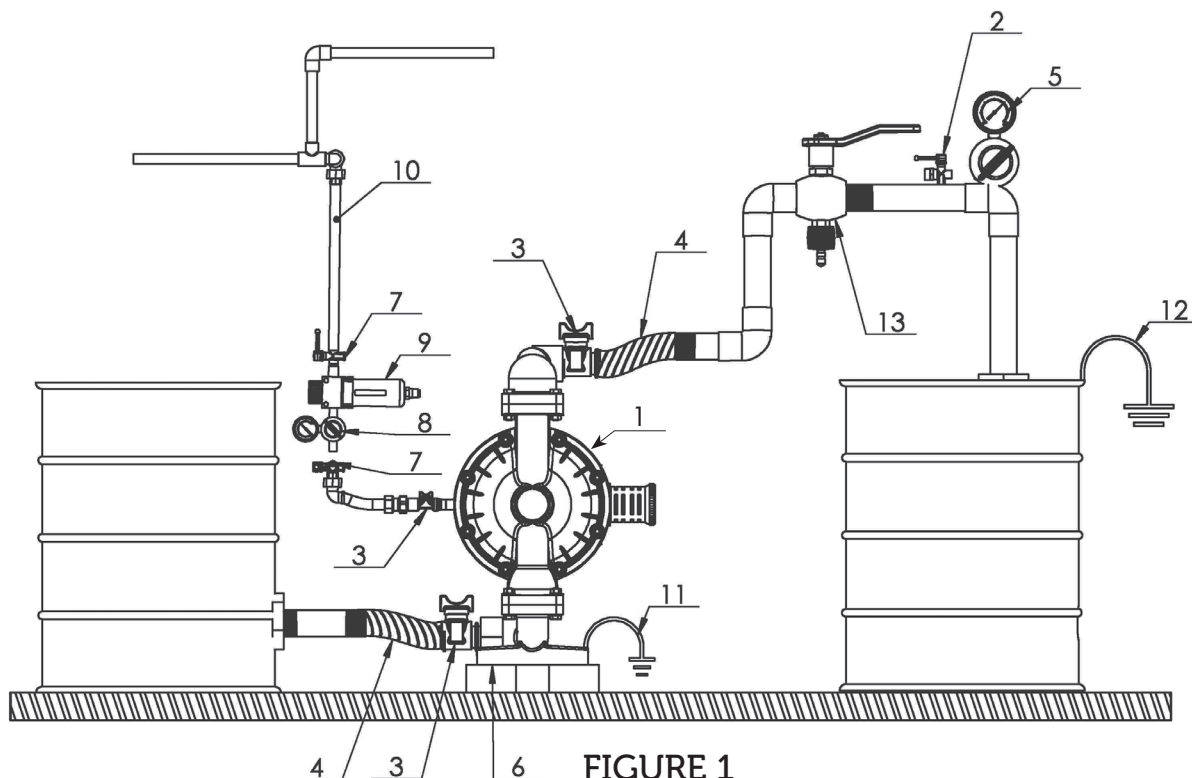

FIGURE 1
Installation of the diaphragm pump is simple. However, if installation characteristics recommended by the Manufacturer Company are considered, working life of the pump shall be long and have high efficiency. (See Figure 1).
- The following (Figure 1) installation diagram is for providing information and guidance to the user on installation of the pump. It guides the user of the pump to install its own system in line with its needs. Consult to VESTAPOMP or authorized dealer for more information and document.
Pressure from the air line connected to the pump shall not exceed 7 bar. Install the air line pipe with a diameter which is not less than the connection diameter to ensure required efficiency of the pump. Air line connection size is $\frac{3}{4}$ in VP 15 type pump. Install air line of the pump as shown in **Figure 1**. Ensure that the air line between the main air line and the pump is flexible. Place a cut-off valve (ball valve) before the air line coming to the pump. Close air inlet from this valve when necessary or if pump air is cut off.
- Make air line connection as shown in **Figure 1**. Connect accessories to the wall or to a fixed place. Make sure that air line conducts electricity.
CAUTION The air trapped between the air line connected to the diaphragm pump (number 3 in figure 1) and the pump itself must be discharged. Otherwise, the trapped air causes unintended start of the pump. This may cause accidents and poisoning due to moving parts.
- Place ball cut-off valve before the compression line in a way to be close to the pump. (See Figure 1)
- Place a manometer in the upstream of the discharge line read the pressure. (See Figure 1)
- Ensure that the flexible and main line pipes to be connected to the discharge line are conductive. Ground the pipes if the pipes are not conductive. (See Figure 1)